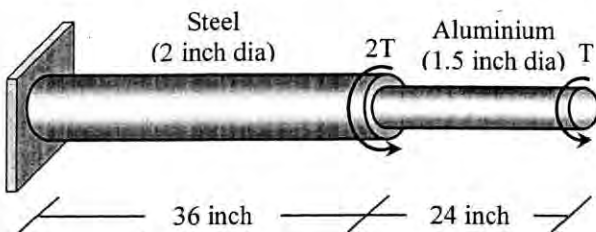

Figure 3
3. A compound shaft consisting of a steel segment and an aluminium segment is acted upon by two torques as shown in **Figure 3**. Determine the maximum permissible value of T subject to the following conditions: $\tau_{\text{steel}} \leq 12 \text{ ksi}$, $\tau_{\text{aluminium}} \leq 8 \text{ ksi}$, and the angle of rotation of the free end is limited to 6° . For steel, $G = 12,000 \text{ ksi}$ and for aluminium, $G = 4,000 \text{ ksi}$.